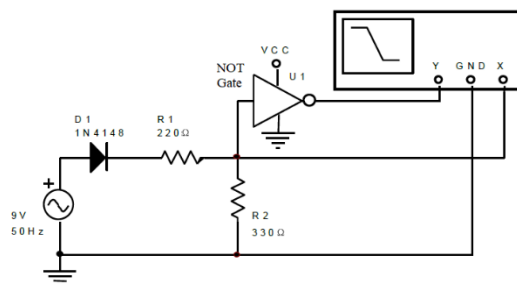

Figure 1.4.
b) Build the circuit given in Fig. 1.4 on a breadboard. Wire the 7404 to ground and +5V. A diode is connected as seen in Fig.1.4 in order to prevent applying the negative cycle of the 9Vpeak sinusoidal voltage source to the input of NOT gate. Connect X and Y probes of the oscilloscope to the input and output of the NOT gate, respectively.